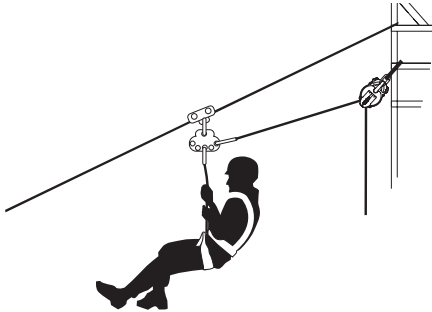

Fig. 12
7.3. Voluntary evacuation on an inclined surface (Fig. 12)